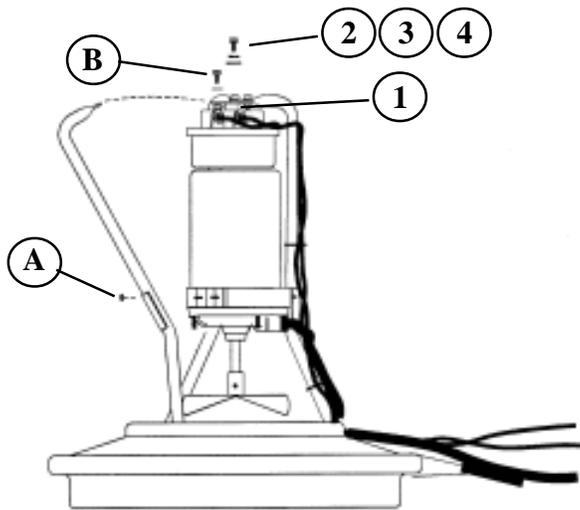

Figure 1
- A.** Place the aerator on a flat surface with the float down. Remove one of the support arms from your aerator by removing the two 1/4" flange nuts (Item A) at the brass mounting ring and the 5/16" bolt, washer and nut (Item B) from the support arm brace. Tip the arm outward. (See Figure 1)